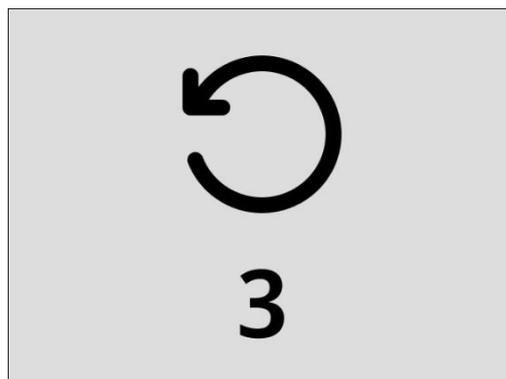

Figure 14.38 Patient reset countdown
2. Hold the alarm button down until the patient reset countdown elapses (see Fig. 14.38)